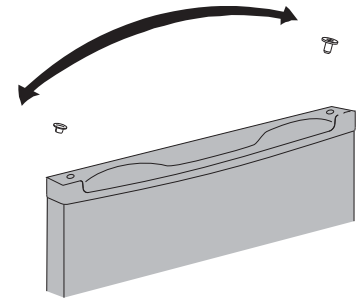

Figure 5
- 5 Move the door bushing (shown on the right in Figure 5) to the left, and the plastic hole cover (shown on the left in Figure 5) to the right.